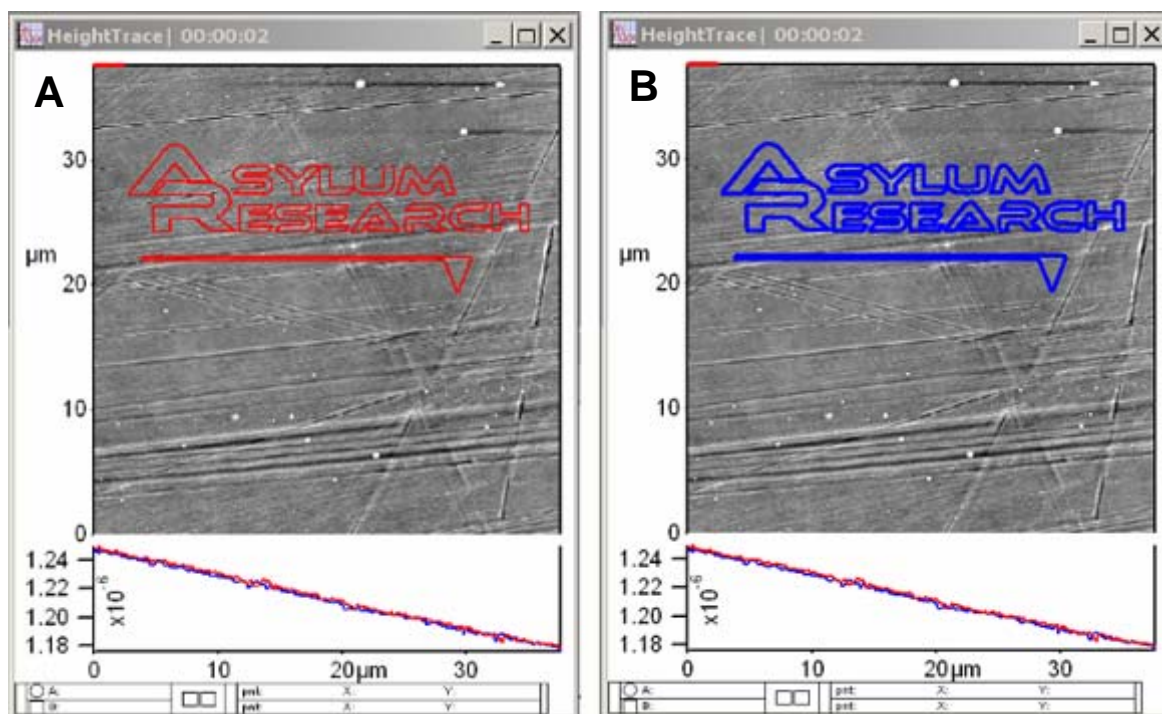
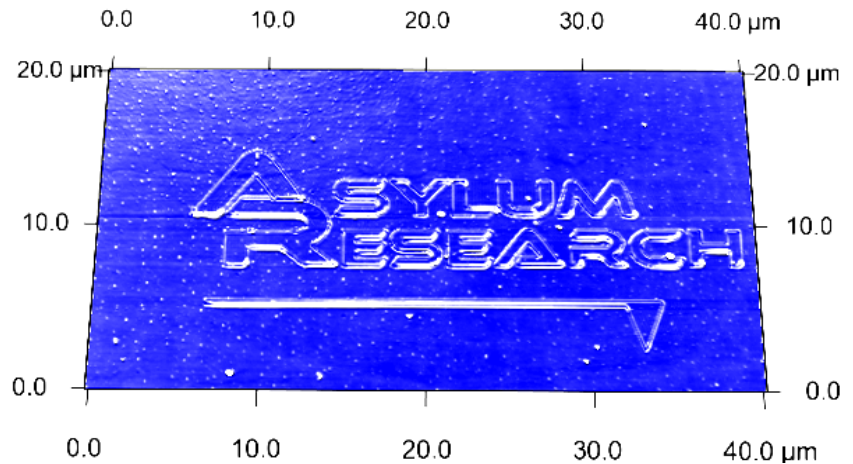

Figure 10.8: A) group displayed, positioned to users preference; B) group after Add Group button activated
Figure 10.9: AC mode image of resulting patterned from an imported image scratched into a polycarbonate image
- ✓ Click the 'Display Group' button- this will display the group (colored red) in the image window (see Figure 10.8 A).
- ✓ Click the 'Add Group' button, which will make the group pattern blue in the image window (Figure 10.8 B).
▪ In the pattern example shown in Figure 10.8 above, an AC 160 Si cantilever was used to scratch a polycarbonate surface. The resulting scratch can be seen in Figure 10.9 (right):